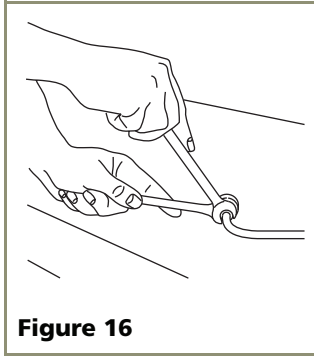

Figure 16
2. Locate the compression fitting and ferrule packed with the unit. Slide the compression fitting and ferrule over the 1/4-inch OD water supply line. Do not use thread sealing compound or tape. Using two wrenches, tighten the compression fitting on the supply line (see **Figure 16**).